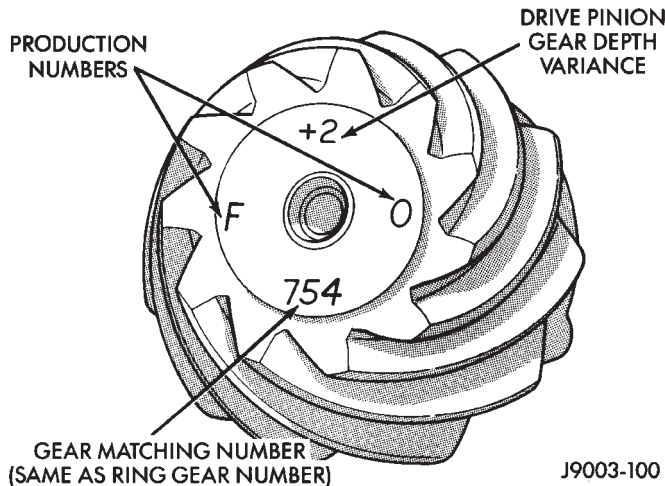

Fig. 67 Pinion Gear ID Numbers
pinion gear are etched into the face of each gear (Fig. 67). A plus (+) number, minus (-) number or zero (0) is etched into the face of the pinion gear. This number is the amount (in thousandths of an inch) the depth varies from the standard depth setting of a pinion etched with a (0). The standard setting from the center line of the ring gear to the back face of the pinion is 109.52 mm (4.312 in.). The standard depth provides the best teeth contact pattern. Refer to Backlash and Contact Pattern Analysis Paragraph in this section for additional information.
(9) Select a shim equal to the dial indicator reading plus the drive pinion gear depth variance number etched in the face of the pinion gear (Fig. 67) using